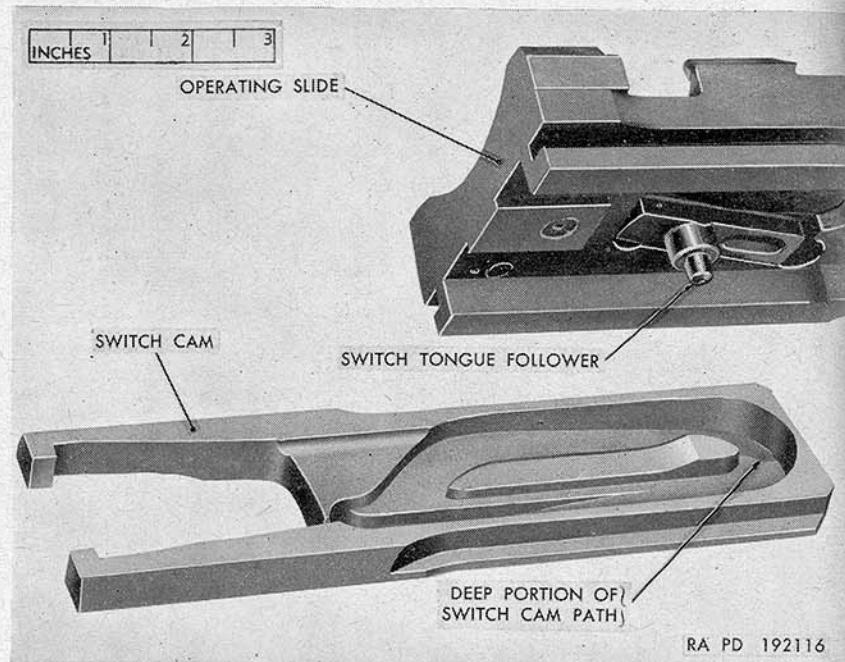

Figure 76. Positioning operating slide in switch cam.
f. Inspect the switch tongue follower (fig. 76) for wear. Notify maintenance personnel if replacement of switch tongue is necessary.
a. Position the switch tongue follower in the deep portion of the switch cam path (fig. 76).